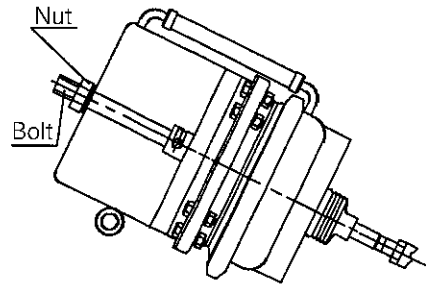

Fig. 3-8b Brake air chamber
- c. Insert the bolt into brake air chamber from its tail and lock it (see Fig. 3-8b).